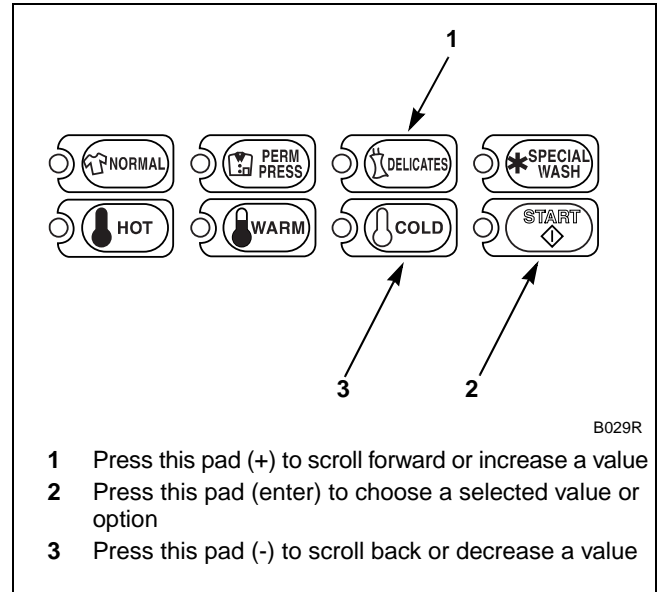

Figure 215
5. Press the DELICATES (+) or the COLD (-) keypad to increase or decrease the current number of minutes displayed in the VFD to the desired number of minutes. Refer to *Figure 215*.
**NOTE: The Special Cycle Extra Rinse Extra Fill/Agitate Time can be set from zero (0) to 15 minutes.**